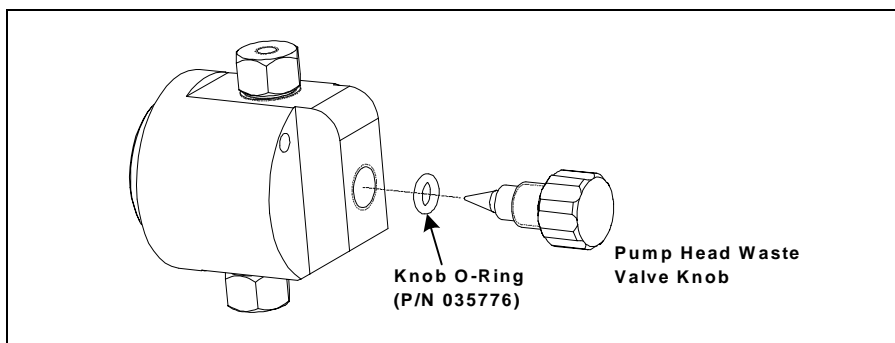

Figure 5-4. Pump Head Assembly
- Remove the valve from the pump head housing by turning the knob counterclockwise until it comes loose from the housing (see Figure 5-4).